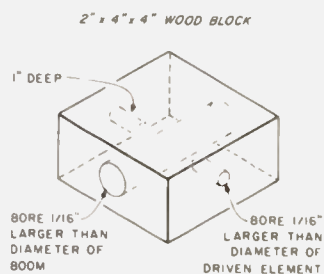

Fig. 2. Sketch of wood block holding driven elements.
Step 6: Take a 4-inch piece of 2" x 4" and bore a hole in it as shown in Fig. 2, to accommodate the boom. Use a smaller bore (or large bit) to drill holes in the sides of the 2" x 4". These holes